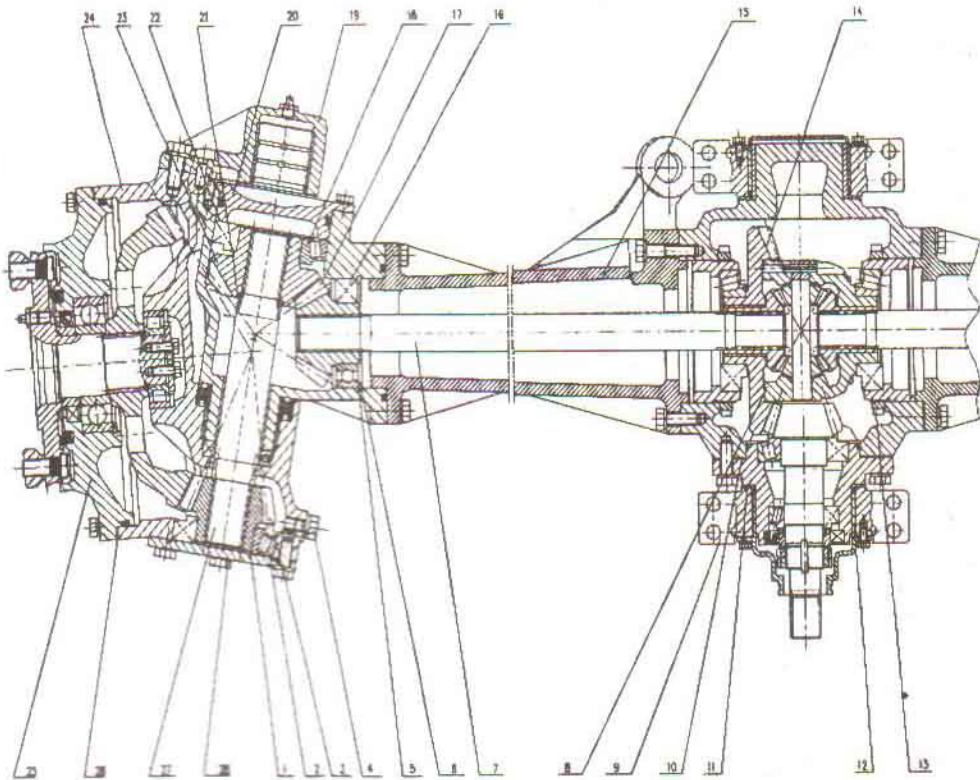

Figure 4.3.9.1 Front drive axle
2、Construction and adjustment of front drive axle assembly (figure 4.3.9.1)